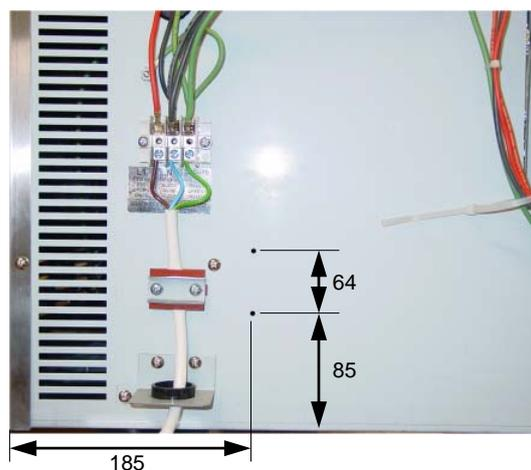

Figure 1
- 2) Mark and drill 2x  $\varnothing 3.5$ mm holes as per figure 1.